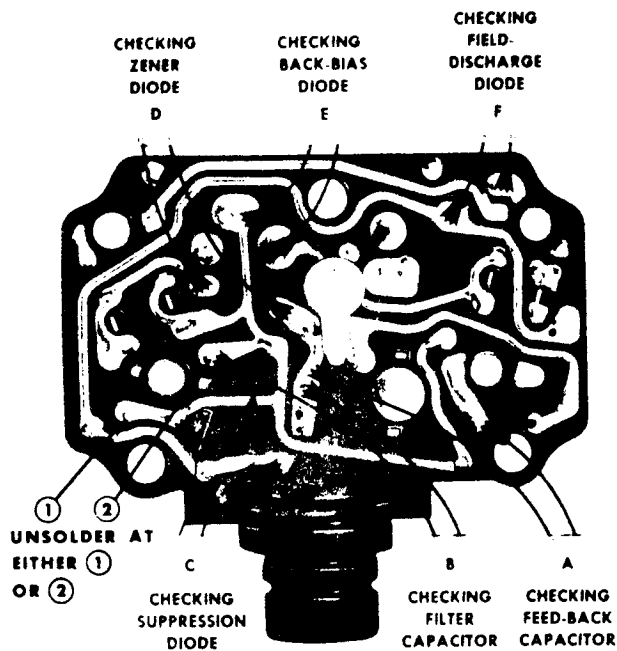

Figure 10—Checking components.
In order to check the panel board assembly, it is necessary to unsolder the emitter-base resistor at location No. 1 or location No. 2 as shown in Figure 10. Earlier production regulators used a wire-wound emitter-base resistor soldered at location No. 1, and later regulators use a solid resistor soldered at location No. 2.
**Feed-Back Capacitor, Part A, Fig. 10:** If both readings are zero, the capacitor is defective. Visually inspect for open soldered connections and broken leads.
**Filter Capacitor, Part B, Fig. 10:** If both readings are zero, the capacitor is defective. Visually inspect for open soldered connections and broken leads. To assemble a new capacitor properly, note
**Suppression Diode, Part C, Fig. 10:** If the two readings are identical, the diode is faulty.
**Zener Diode, Part D, Fig. 10:** Replace the diode if both readings are zero, if both readings are infinite, or if both readings are identical.
**Back-Bias Diode, Part E, Fig. 10:** Replace the diode if both readings are zero, if both readings are infinite, or if both readings are identical.
**Field-Discharge Diode, Part F, Fig. 10:** Replace the diode if both readings are zero, if both readings are infinite, or if both readings are identical.